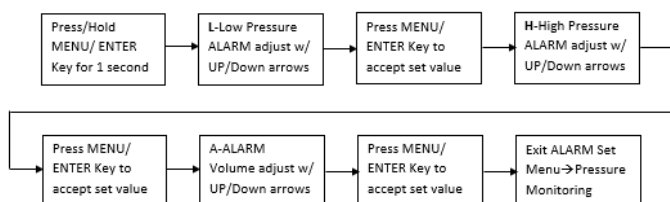

FIGURE 12
7.6 Adjusting Alarm Settings (*FIGURE 12*)